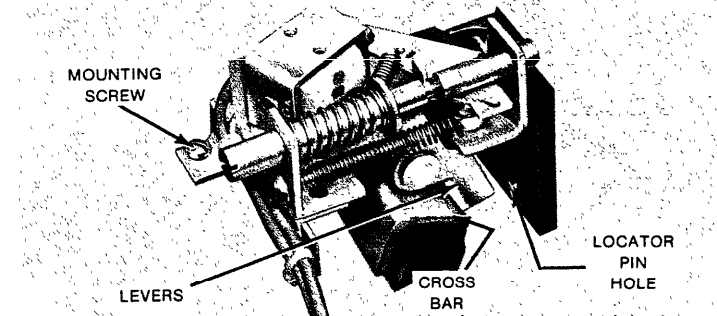

Figure 4
4. Install accessory as shown with operating levers behind cross bar and locator pin engaged in support. Secure with mounting screw. (Figure 4)